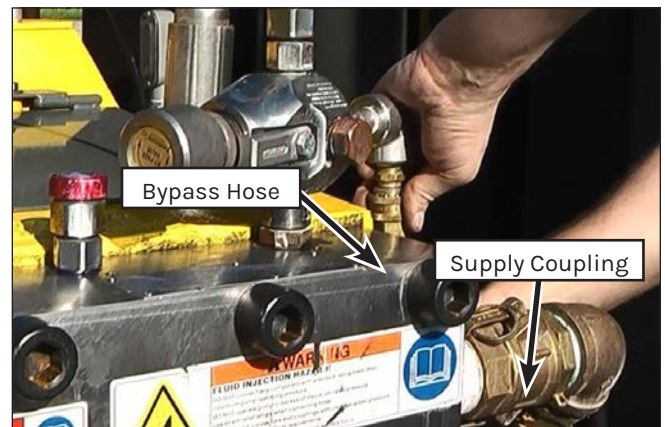

Figure 77: Connecting Bypass Hose and Supply Coupling.
26. Connect the supply coupling (Figure 77) and the bypass hose to the manifold.